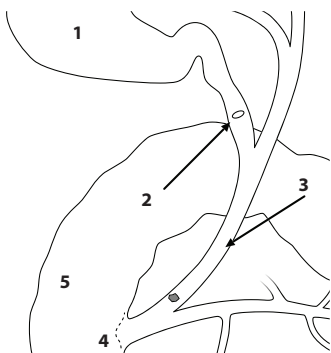

Fig. 2
2. During dissection of the cystic or bile duct, note the duct size. If accessing via the cystic duct, dissect down closer to the common bile duct to avoid spiral valves. **(Fig. 2)**